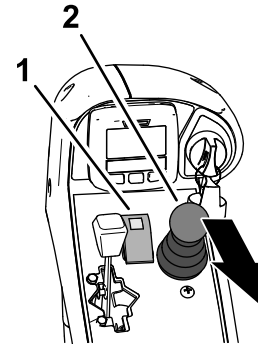

Figure 37
1. Press the PTO switch to the DISENGAGE position (Figure 37).